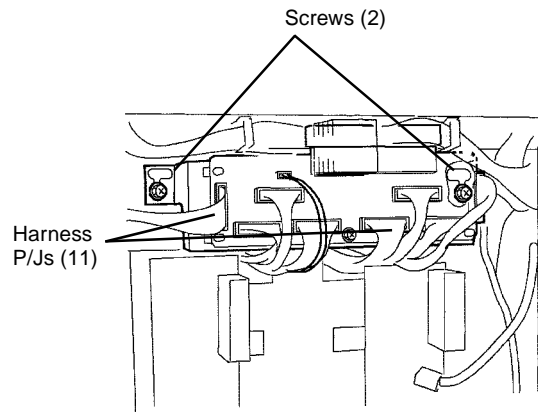

Figure 1 Removing Interface PWB
6. Remove Interface PWB (Figure 1).
- a. Loosen Screws (2).
- b. Lift Interface PWB until Harness P/J's (13) can be disconnected.